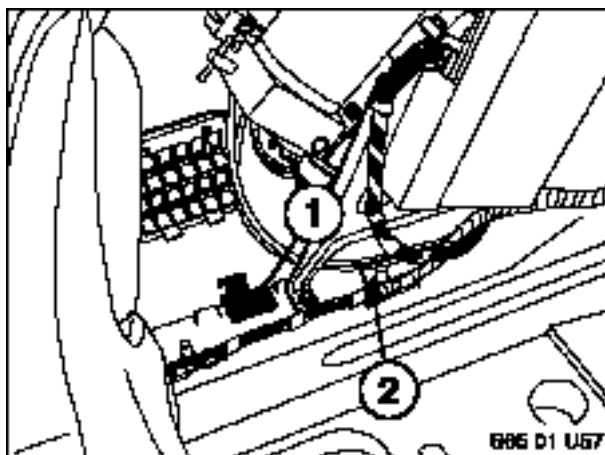

Figure 6
2.3 See Figure 6. Locate and unwrap 6-position inclination sensor connector (2).
2.5 See Figure 6. Locate vehicle body bracket (1) for mounting of inclination sensor/bracket assembly.